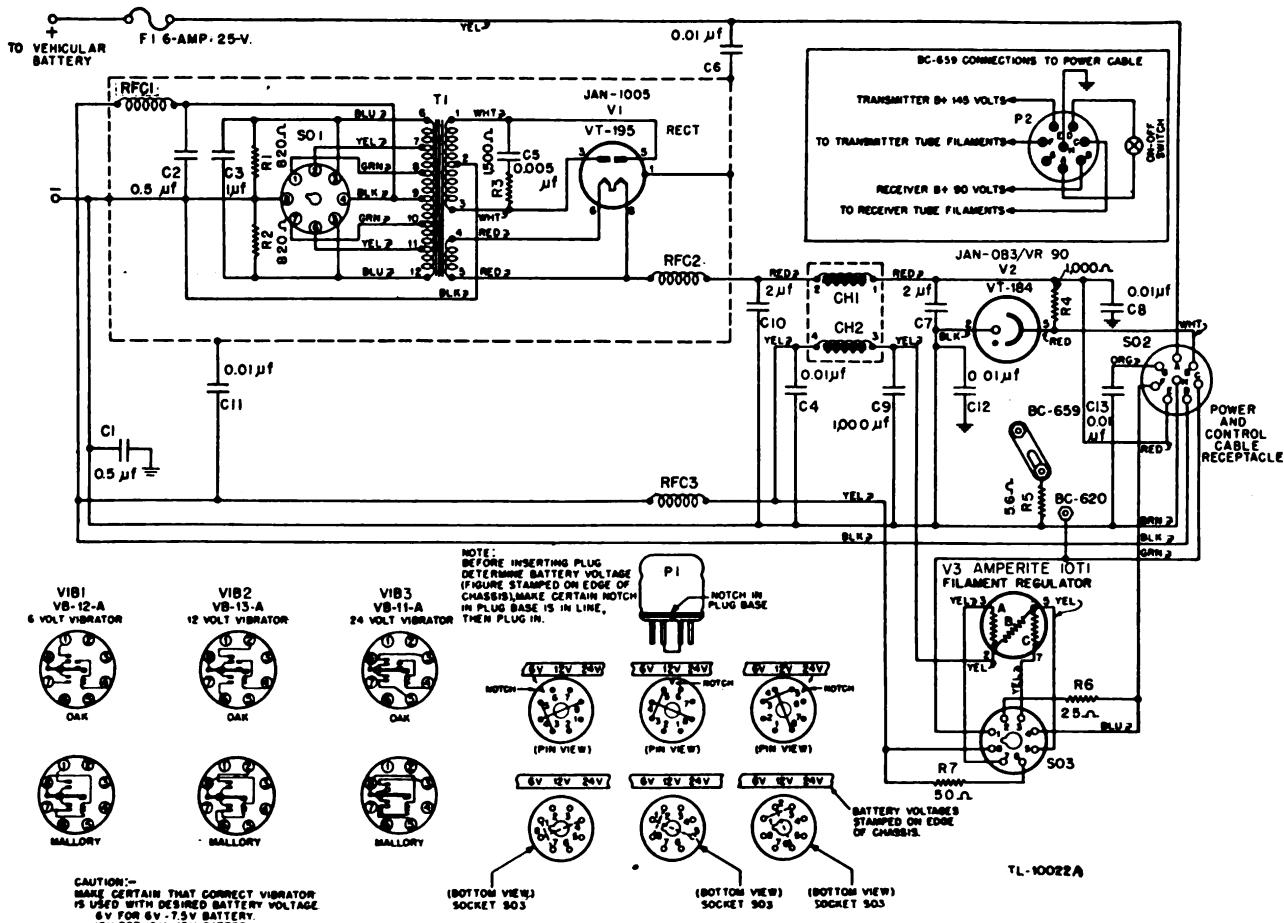

Figure 68. Power Supply Unit PE-120-A, schematic diagram.
Unit PE-120-A is shown in figure 68. The battery supply leads are approximately 10 feet long. Low-voltage power to vibrator-transformer T1 is controlled by switches SW3 and SW4 on the back of the volume control in Radio Receiver and Transmitter BC-659-( ). The vibrator circuit is protected by fuse F1. Positive and negative leads to vibrator-transformer T1 are filtered by capacitors C1, C2, and C6 and r-f choke RFC1 to prevent hash from the vibrator plate rectifier units getting back into the vehicular battery leads.
b. Vibrator VIB1 (6-v), VIB2 (12-v), or VIB3 (24-v) is plugged into vibrator socket SO1. The vibrator applies the vehicular battery voltage alternately to one side and then the other of the primary of vibrator-transformer T1. The a-c voltage on the secondary of vibrator-transformer T1 is applied to rectifier Tube JAN-1005 (V1). The secondary winding (terminals 4 and 5) applies a-c voltage to the filament (socket pins 6 and 8) of the rectifier tube. The high voltage from the secondary (terminals 1 and 3) of vibrator-transformer T1 is applied to the rectifier tube (socket pins 3 and 5). Fixed capacitor C5 is a buffer capacitor which prevents r-f voltages from being generated in the rectifier tube and at the same time tunes the secondary of vibrator transformer T1 to the correct operating frequency. This operating frequency, at which VIB1, VIB2, or VIB3 applies potential to the primary windings of vibrator-transformer T1, is determined by the mechanical resonance of the reed in the vibrator unit. The vibrator is actuated by a coil which has its own independent contact on the vibrator reed, as indicated in the schematic diagram (fig. 68).